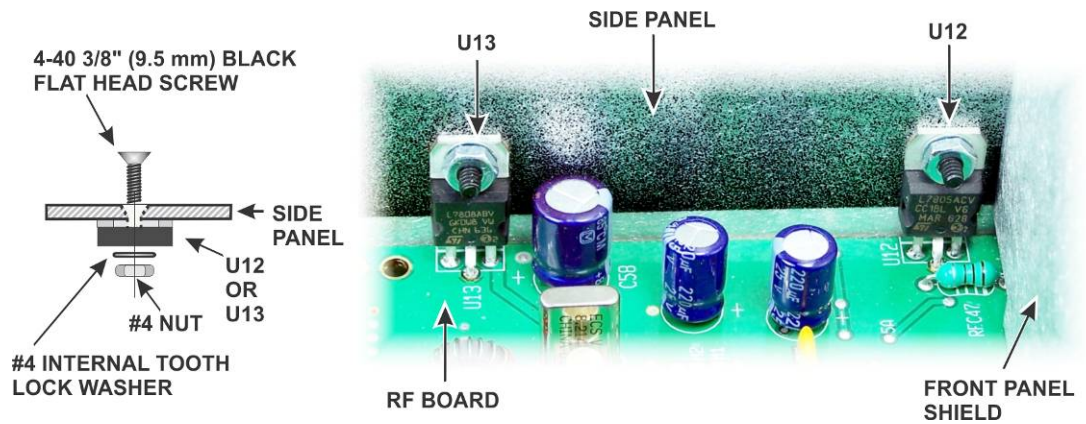

Figure 30. U12 and U13 Hardware.
Remove the hardware securing the heat sinks of U13 and U12 to the right side panel (see Figure 30). Be careful not to lose the lock washers inside the K3S or K3.
- Replace the two 4-40 3/8" (9.6 mm) black flat head screws, lock washers and nuts to secure the heat sinks of U13 and U12 to the side panel as shown in Figure 30.